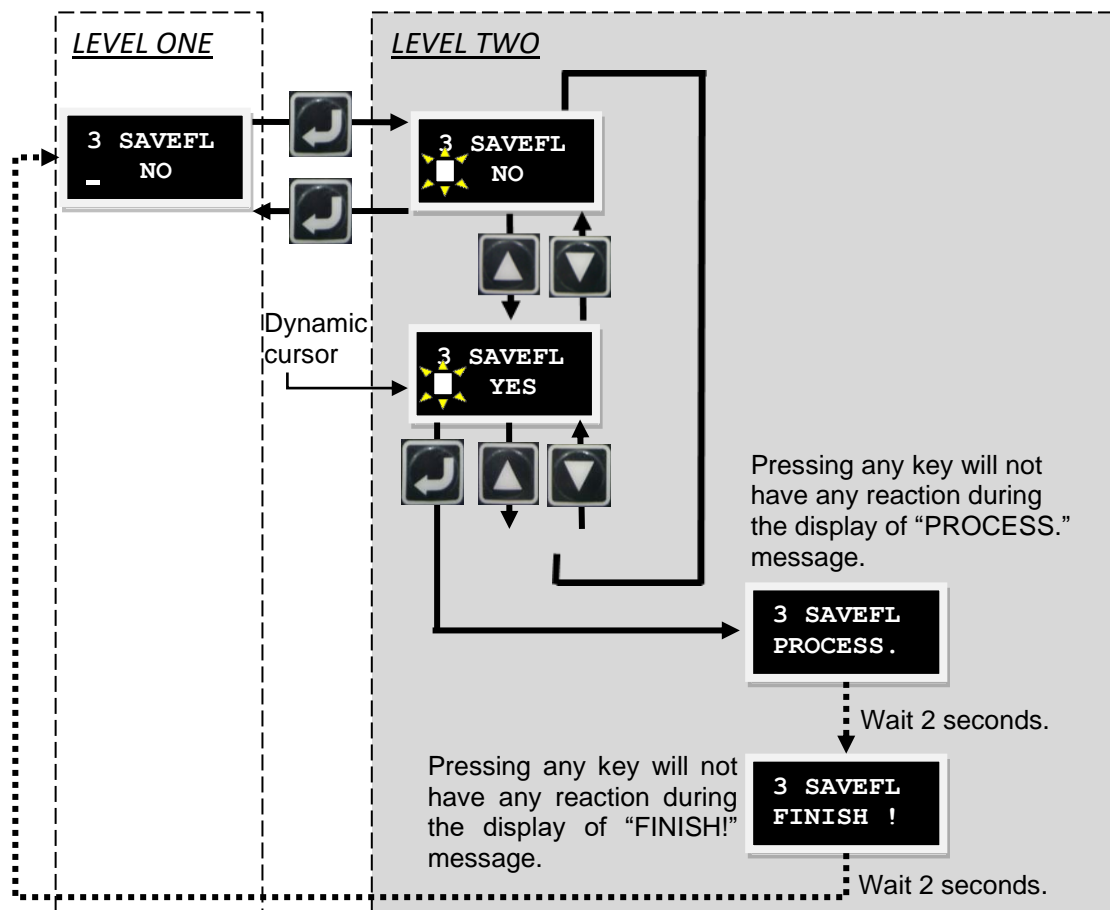

Figure7.5.1.1 "Save to Flash" operation
- Step 3: When the servo is disabled, the "PROCESS." message will be displayed on the screen after pressing the Enter key. This indicates that parameters are being saved to Flash. The "FINISH!" message will be displayed after the "Save" procedure is completed. The operation flow chart is given in figure 7.5.1.1. When the servo is enabled, pressing the Enter key will also do the same steps described in figure 7.5.1.1, but the motor will be disabled.